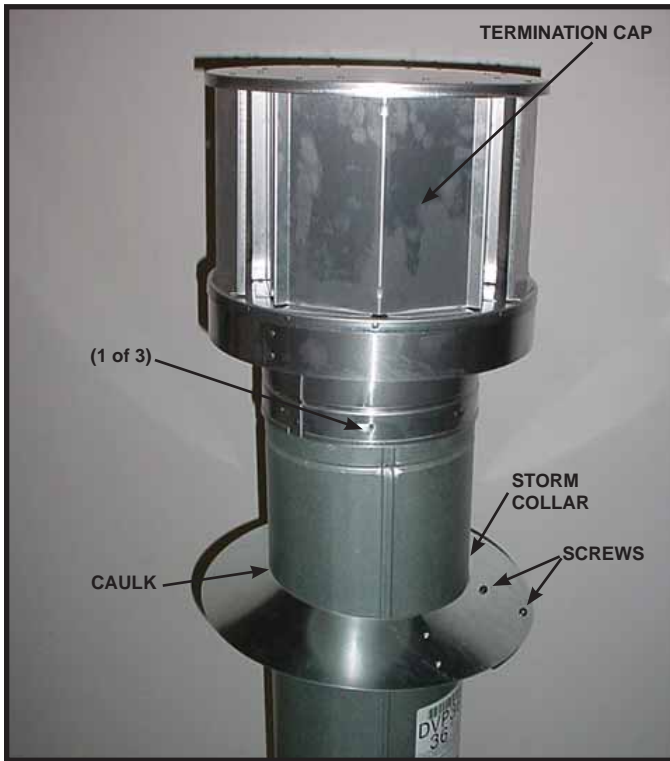

Figure 8.20
- Caulk around the top of the storm collar (see Figure 8.20).
- Secure the cap by driving three self-tapping screws (supplied) through the pilot holes in the outer collar of the cap into the outer flue of the pipe (see Figure 8.20).